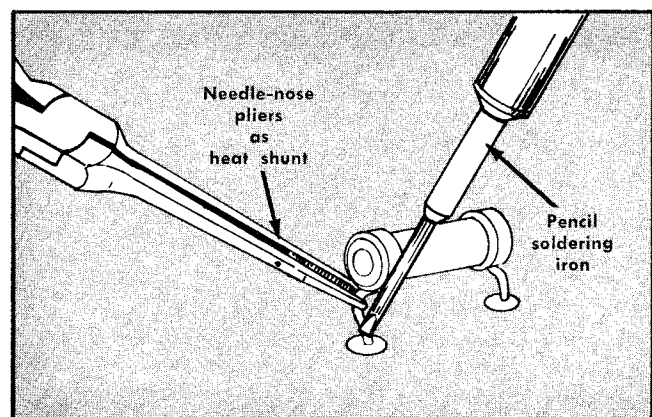

Fig. 4-1. Removing or replacing component on circuit board.
4. Apply the iron and a small amount of solder to the connection to make a firm solder joint. To protect heat-sensitive components, hold the lead between the component body and the solder joint with a pair of long-nose pliers or other heat sink (see Fig. 4-1).